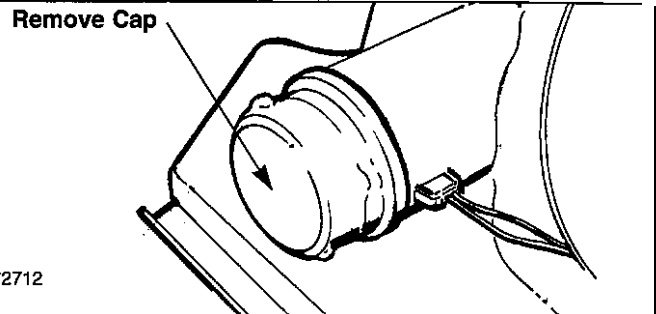

Figure 5. Remove Vacuum Hose Intake Cap
3. Remove the vacuum hose intake plug from the vacuum hose opening, and store it where it won't get damaged or lost (Figure 5). Placing the plug into the chipper cone opening will keep it readily available when you want to resume walk-behind vacuuming.